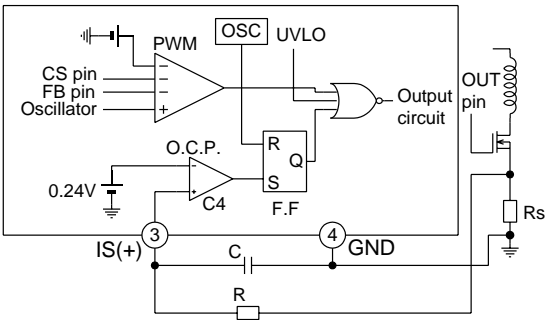
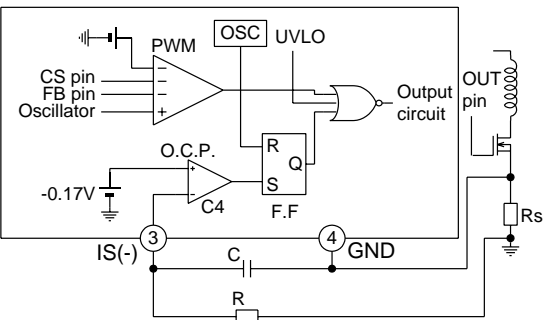
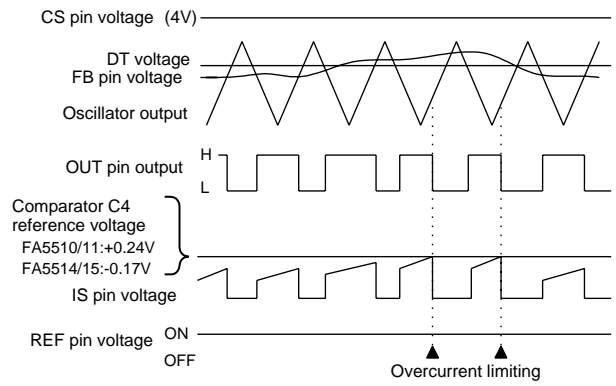

Fig. 13 Overcurrent limiting circuit (FA5510/11)
Fig. 14 Overcurrent limiting circuit (FA5514/15)
Fig. 15 Overcurrent timing chart
The overcurrent limiting circuit detects the peak value of every drain current pulse (pulse by pulse method) of the main switching MOSFET to limit the overcurrent. The detection threshold voltage is $+0.24\text{V}$ for FA5510/11 or -0.17V for FA5514/15 with respect to the ground as shown in Figure 13 and Figure 14. The drain current of the MOSFET is converted to voltage by resistor R_s and fed to the IS pin of the IC. If the voltage exceeds the reference voltage $+0.24\text{V}$ (FA5510/11) or -0.17V (FA5514/15) of comparator C4, comparator C4 works to set flip-flop output Q to high. The output is immediately turned off to shut off the current. Flip-flop output Q is reset on the next cycle to turn on the output again. This operation is repeated to limit the overcurrent.
If the overcurrent limiting circuit malfunctions due to noise, place an RC filter between the IS pin and MOSFET as shown in Figure 13 and Figure 14. (See item 12 in "Design advice.") Figure 15 is a timing chart that illustrates overcurrent-limiting operations.